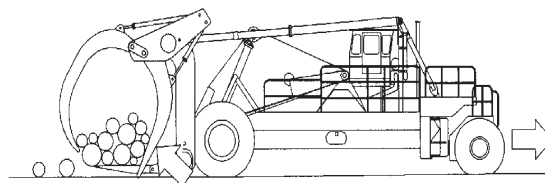

Fig. 5-12
2. While backing the machine, slowly open the holddown arms and gradually push the load forward with the kickoff arms. This way, the logs can be dropped one at a time rather than all at once. See Fig. 5-12